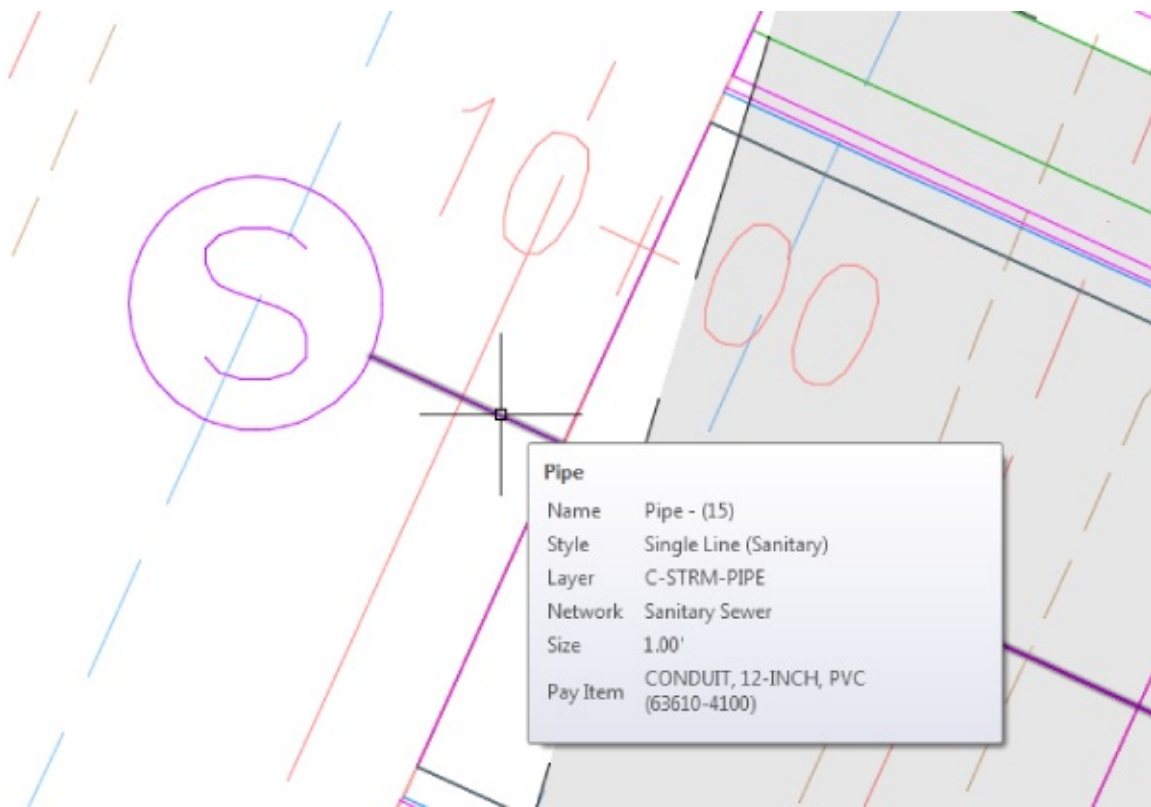

Figure 17.18 Tooltip after the pipe part has been swapped to a part with an assigned pay item
8. Pause near the newly sized pipe and notice that the tooltip now shows the pay item, as shown in Figure 17.18.